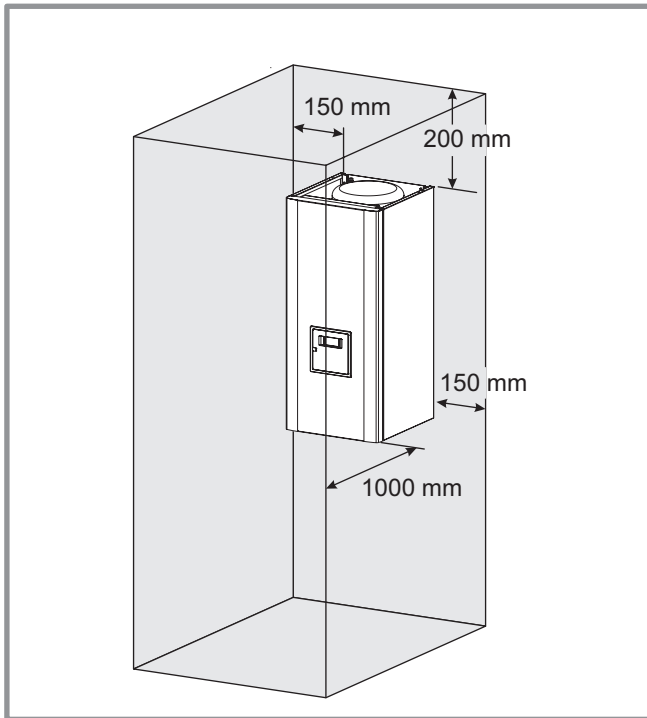

Figure 13 - Minimum installation clearances around the hydraulic unit and distances to the combustible partitions
- To facilitate maintenance and to allow access to the various components, we recommend that you provide sufficient space all around the hydraulic unit (figure 13).